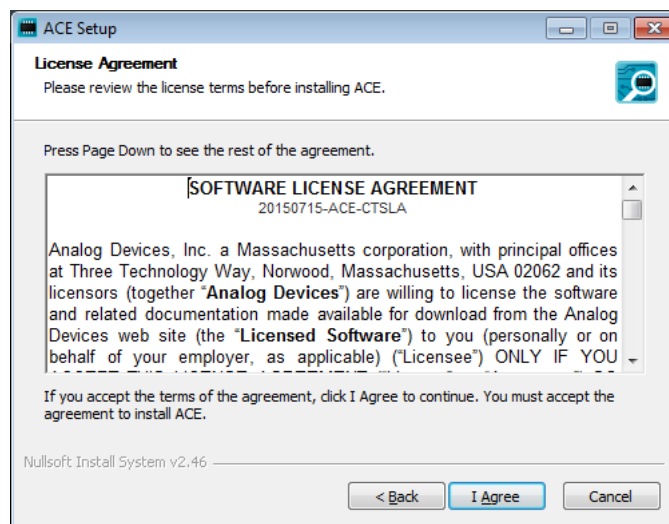

Figure 2-3: ACE Setup Wizard Step 3
Step 3: Carefully read the ACE Licensing Agreement and select “I Agree” if happy with the agreement, Figure 2-3. If you do not agree with the agreement please email ace.support@analog.com for more information.